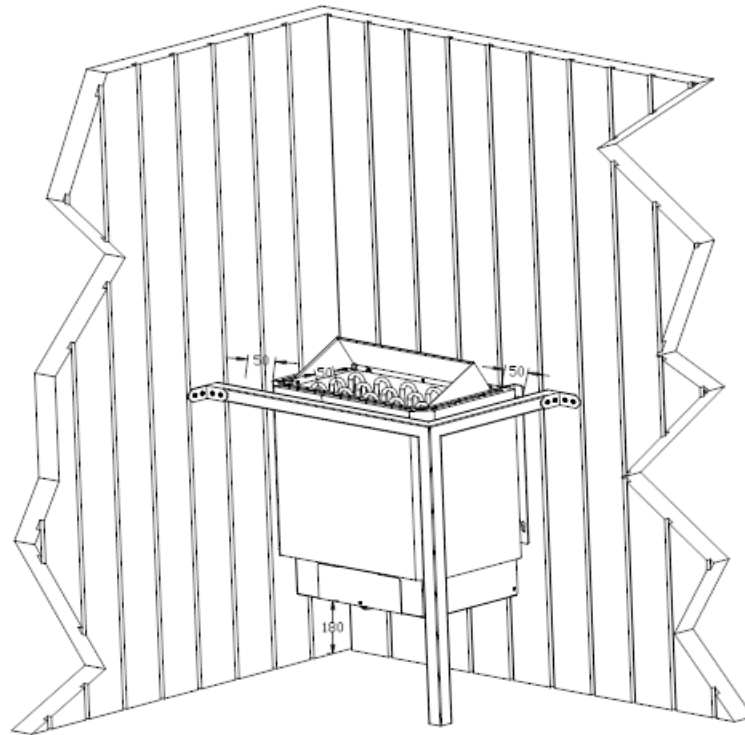

Figure 3
- The location of the heater should fulfil the minimum requirements concerning the distances given in table 1 and figure 3.
- The heater gets very hot when working, to avoid the risk of accidental contact with the heater, it is recommended that a heater guard to be provided. The guard could be made into many kinds of patterns in accordance with the location place, but some size must be made as table 1 and figure 3.